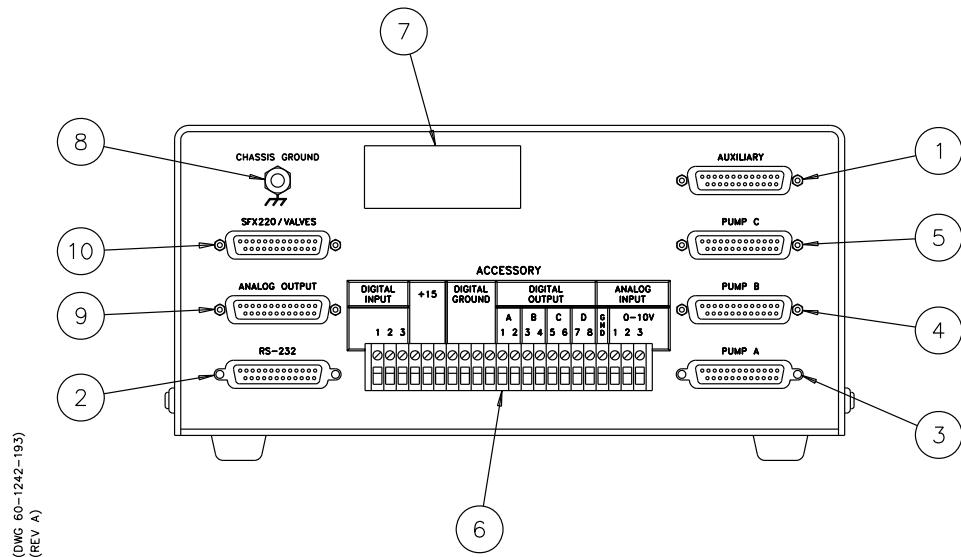

Figure 1-6 Pump controller rear panel connectors
The rear panel of the pump controller contains several input and output connectors, detailed in Table 1-10, and shown in Figure 1-6.
2. Connect the control cable (which originates from the pump rear panel) to the PUMP A connector on the rear panel of the controller (Figure 1-6), and tighten the thumbscrews. This cable must be plugged into the PUMP A connector.